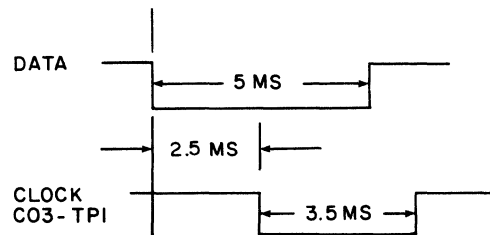

Figure 3-4. Data and Clock Timing
The timing relationship shown in Figure 3-4 should be observed by using any one of the 12 data levels for a trigger. If the timing is incorrect, it can be corrected by adjustment of the card pusher arm. Refer to Service Data, Card Pusher Arm of NCR EM-D2 (PE) Card Reader Manual.